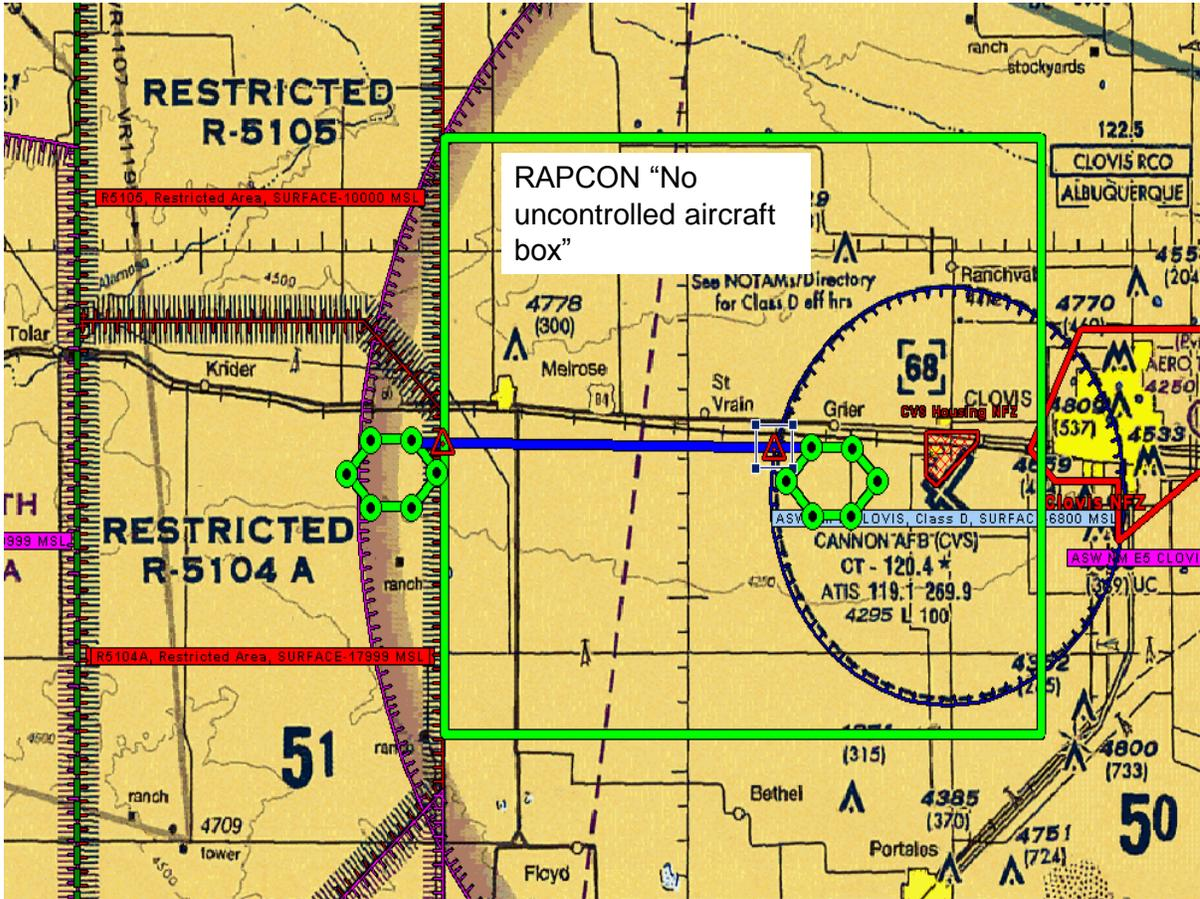

Figure 2. Cannon 20NM X 20NM Box.
3. RAPCON controller must verify that they have no “uncontrolled” radar observed traffic (primary or secondary) within the identified 20 NM X 20 NM box (figure 2).